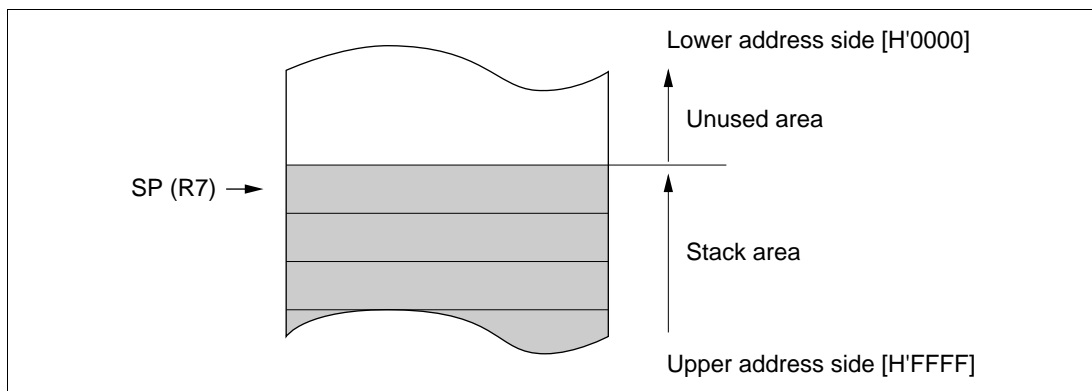

Figure 2.2 Stack Pointer
R7 also functions as the stack pointer (SP), used implicitly by hardware in exception handling and subroutine calls. When it functions as the stack pointer, as indicated in figure 2.2, SP (R7) points to the top of the stack.